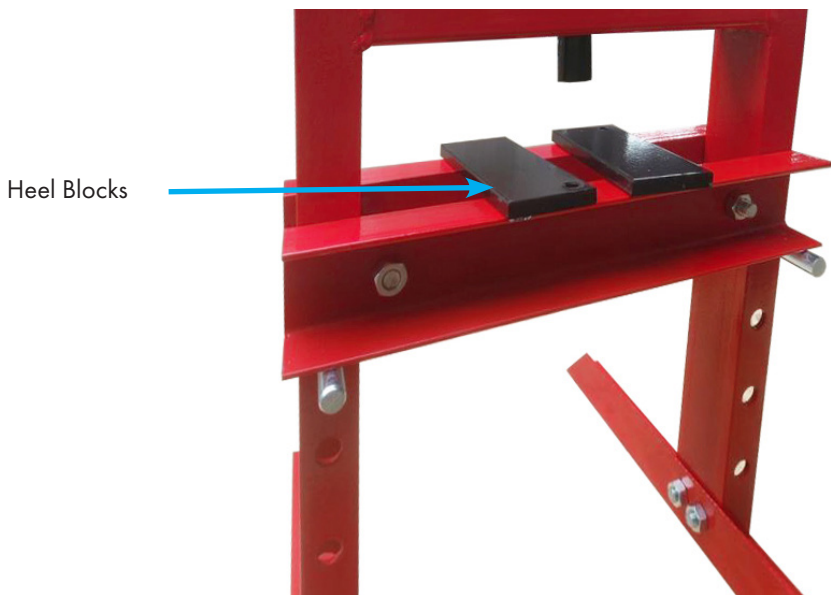

fig. 6
- The press table (3), p.11 consists of a front and rear section
- Install the press-table parts (see also page 15) on the front and rear of the frame (5).
- Use the bolts of the bolt set (A), the appropriate washers and nuts.
- Slide the two support bolts (C) into the frame at the desired height.
- Put the heel blocks on. See fig.6.
- Check that the hydraulic cylinder (4) and springs are correctly seated.